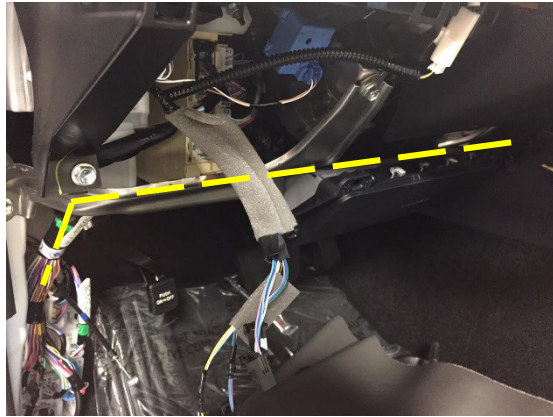

Figure 24
36. Secure harnesses to factory harness under steering column using wire ties routing down to the driver side kick panel. Figure 24.